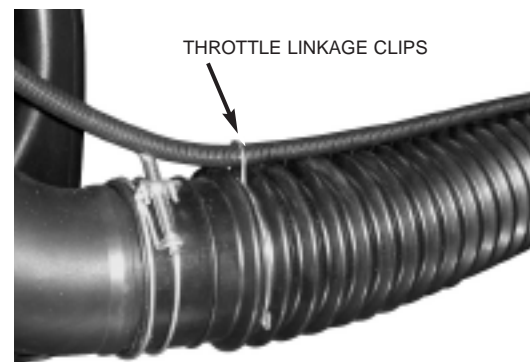
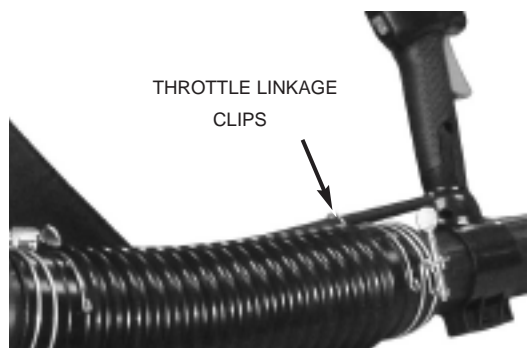

Fig. 5
Fig. 6
4. Attached throttle linkage clips (# 24-know your blower) - to both ends of the flex tube to secure the throttle cable. ( See Fig. 5 and Fig. 6)